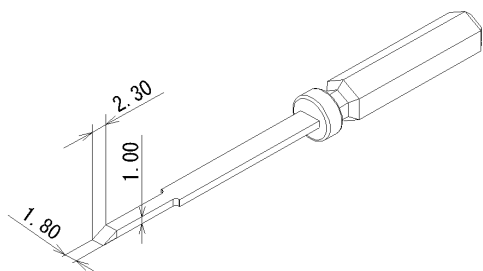

Figure-7. Removal tool for front holder /cover
- 1) Insert the tool (see Figure- 7) in the lock as shown in Figure-9.
- 1) Insert the front holder removal tool (see Figure-7 in page 14) in the opening "A", which is marked with .
- 2) Tilt the removal tool in the direction ① to move the front holder to the pre-set position.